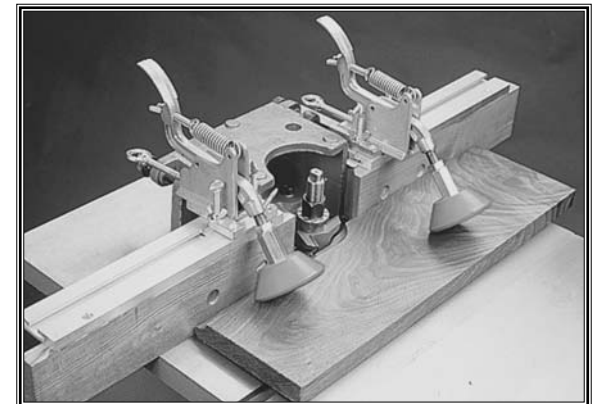

Figure 1. Typical Board Buddy application.
BOARD BUDDIES® are made from die-cast aluminum and feature non-marring green neoprene rubber wheels. Because the wheels turn in both directions, they function as hold-down rather than anti-kickback devices. You can mount these to fences that are 3" to 1½" high x 1" or wider. Each Board Buddy consists of a mounting bracket, a main body, and a roller. The main body has a pivot arm which accepts the roller, a housing which contains the pivot point and a roller pressure spring. See **Figure 1**.
To install your BOARD BUDDIES® see **Figure 1** and **2**, and do these steps:
3. Position the mounting bracket on the auxiliary fence so it does not protrude into the path of the stock. See **Figures 1** and **2**.
4. Position the rollers as close as possible to the shaper spindle, but clear from the blade or cutter used. See **Figure 1**.
BOARD BUDDIES® assist stock feeding by maintaining a consistent pressure against the machine table and the fence. See **Figures 1** and **3**.